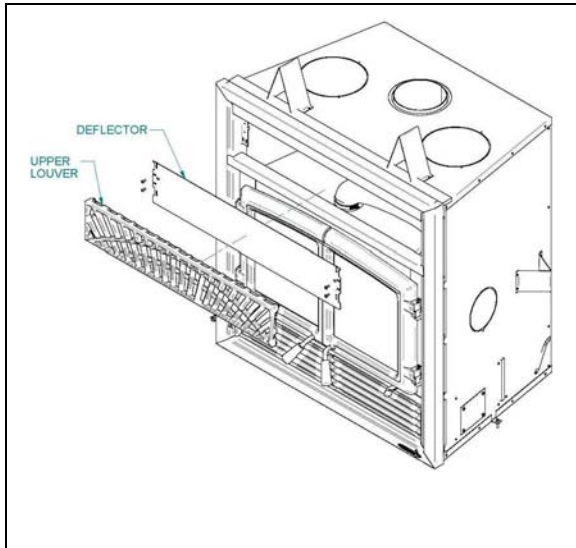

Figure 20
- Install the deflector as shown on figure 20;